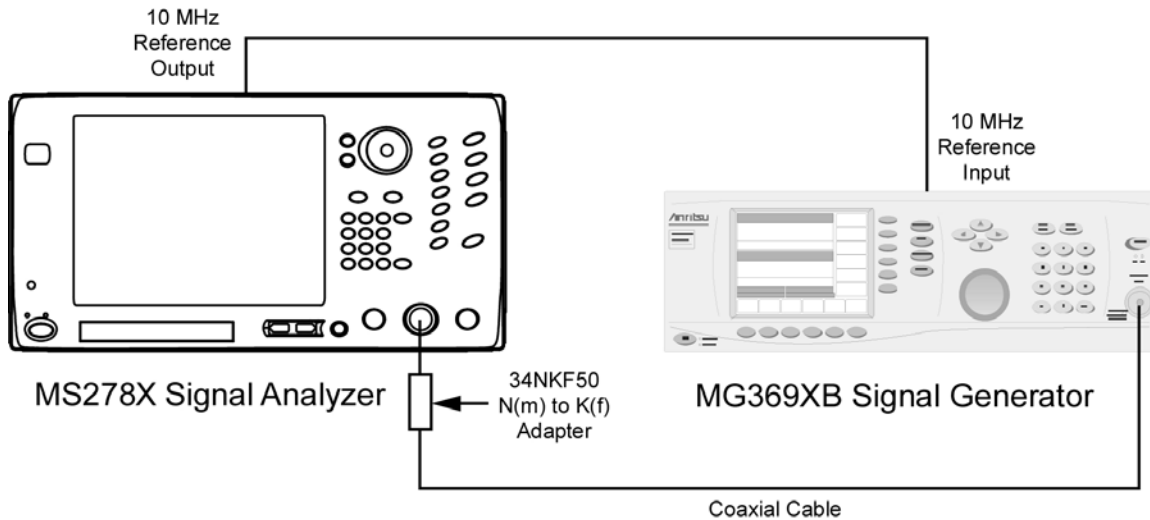

Figure 5-56. Equipment Setup for Reference Level Switching Uncertainty Test
1. Set up instruments as shown in Figure 5-56.